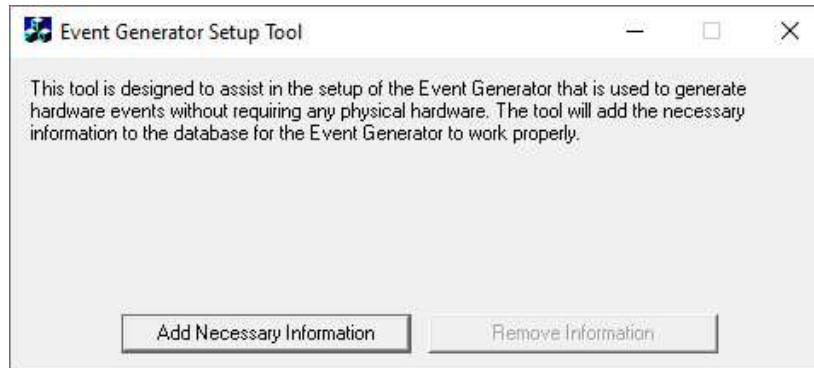

Figure 7
2. When the EventGeneratorTool opens, click "Add Necessary Information". See Figure 7.